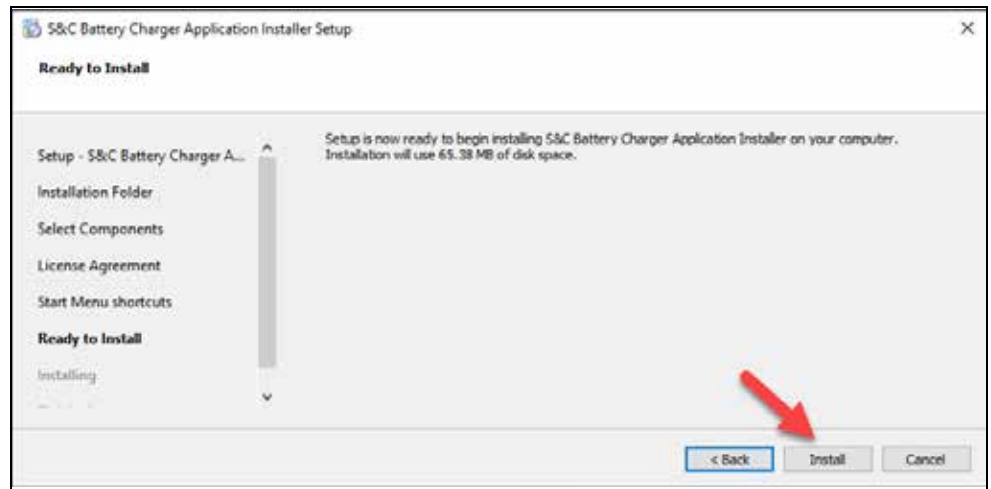

Figure 8. The *Ready to Install* screen.
STEP 7. Click on the **Install** button. See Figure 8. During installation, a dialog box will appear giving the option to add a shortcut to the S&C Battery Charger application to the desktop. Click on the **Yes** or **No** button as desired to continue the installation.